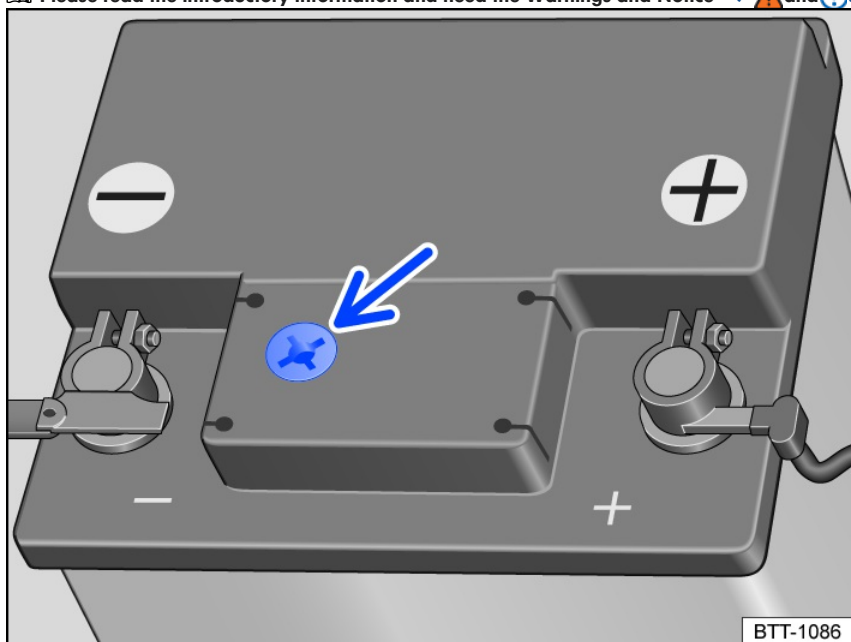

Fig. 160 Window on the top of the 12 V vehicle battery (general example).
- Make sure there is enough light to clearly see the color indicator in the circular window on the top of the 12 V vehicle battery (arrow) *fig. 160*. Never use open flames or smoldering objects to provide light.